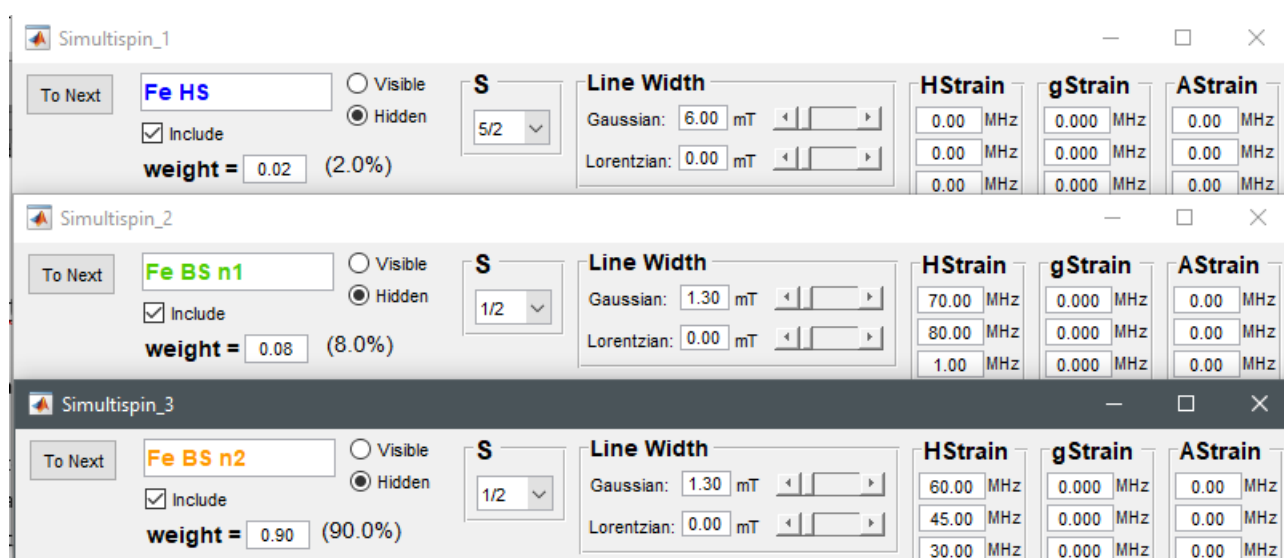

Figure 5: extract of three component windows with their relative weight options
- With several components, the user is able to specify the relative weight of each of them in each component window (see fig5).